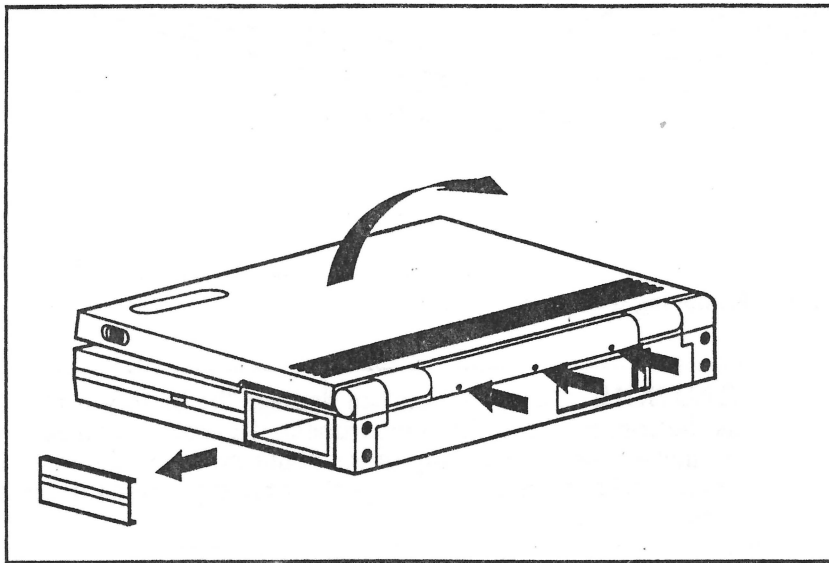

Figure 2-6. Removing the Option Bezel and Locating the Rear Snaps
3. Remove the option bezel (Figure 2-6).
4. Loosen the rear snaps with the case utility tool (Figure 2-6).